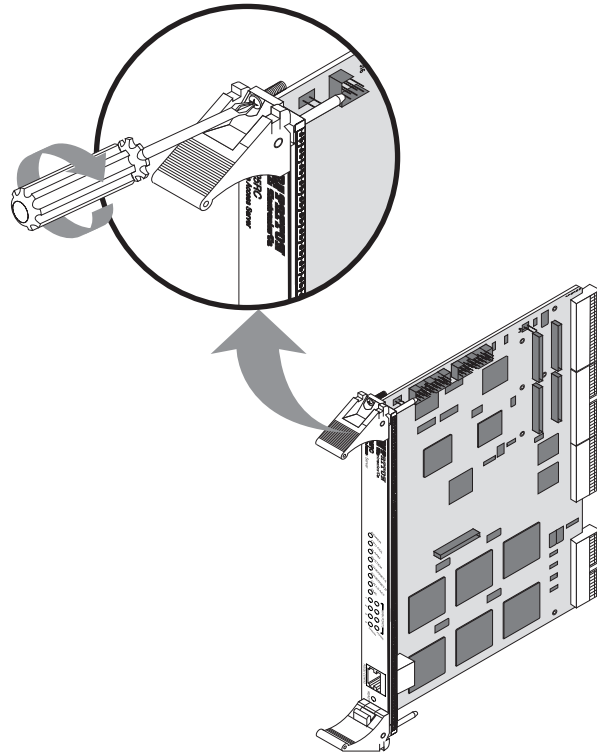

Figure 11. Securing the captive fasteners
7. Verify that the module is properly seated, then secure it to the chassis using the captive fasteners located adjacent to the injection/ejection handles (see figure 11).
6. Verify that the module is properly seated, then secure it to the chassis using the captive fasteners located adjacent to the injection/ejection handles (see figure 11).